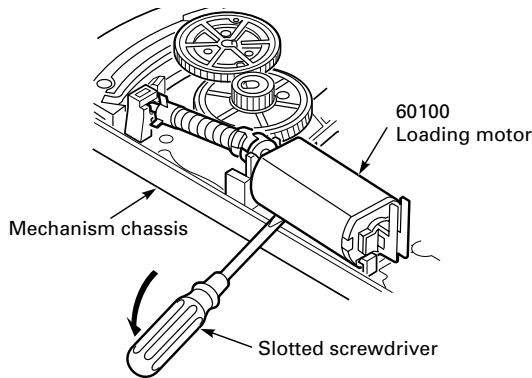

Fig. 8.12
- Lever off the loading motor (Pos. 60100) at the front with a slotted screwdriver and take it out from the clamps together with the worm wheel (Pos. 60200, Fig. 8.12).